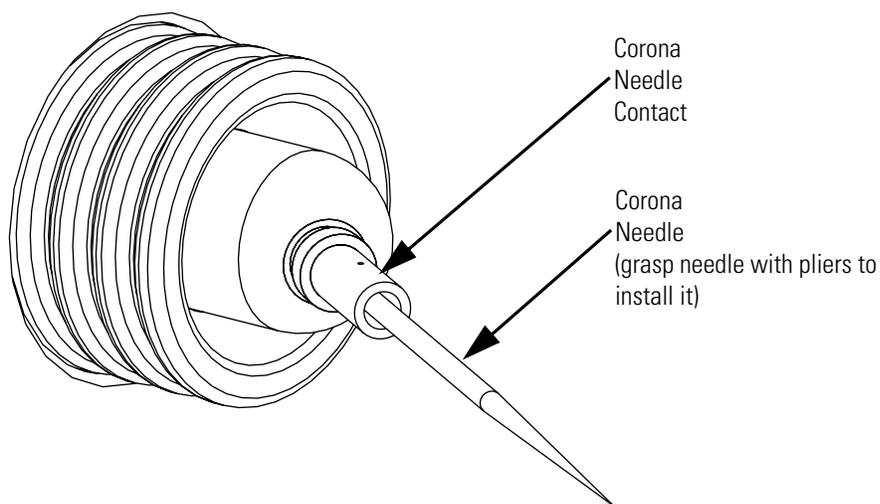

Figure 52. Corona needle, view from inside of the Ion Max housing
1. Using needle nose pliers, grasp the corona needle and push the needle straight into the needle contact in the Ion Max ion source housing. Be careful not to scratch the needle. See Figure 52.